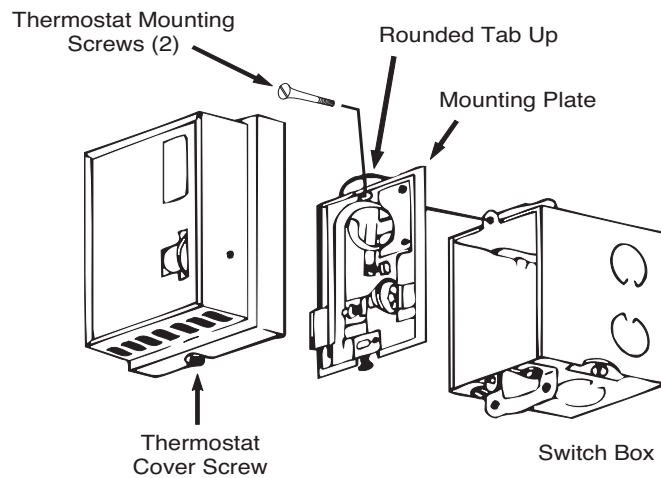

Figure-5 Thermostat Mounting.
3. Remove thermostat cover and fasten thermostat to box or wall (see Figure-5).
4. Attach thermostat cover (see Figure-5).
- Remove cover (see Figure-5).
5. Replace the thermostat cover (see Figure-5).